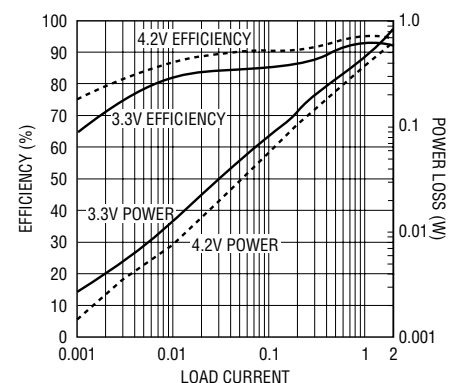

Figure 1. High Efficiency Step-Up Converter
**3.3V Output Efficiency, Circuit of Figure 1 with Burst Mode Operation**
**3.3V Output Efficiency, Circuit of Figure 1 with Burst Mode Operation Inhibited**